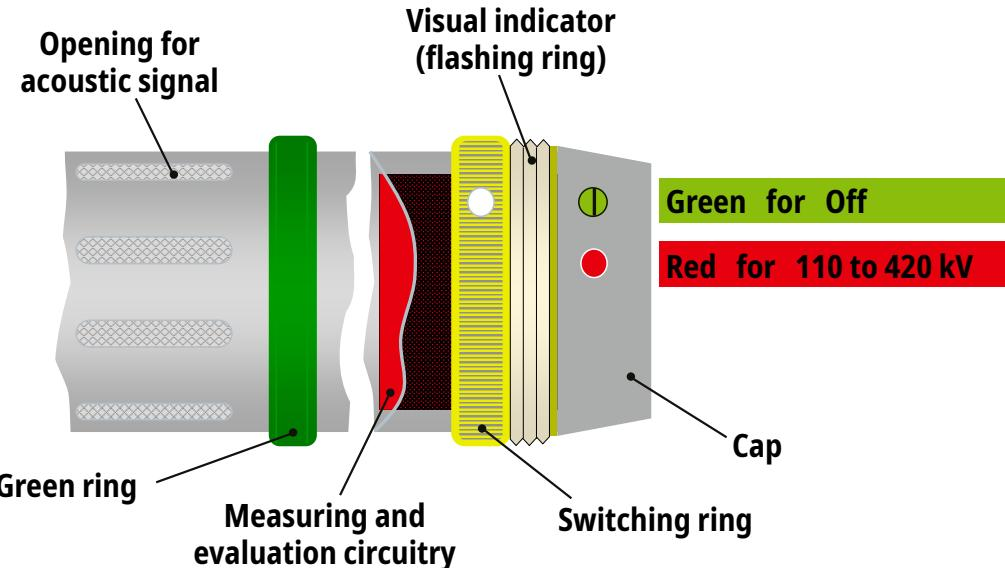

Figure 5 Operating head with indicating element
- ➲ The high-voltage indicator has a yellow knurled **switching ring (9)** on the operating head, with which the device is switched on by turning it and at the same time the corresponding nominal voltage range is activated (see figure 5).